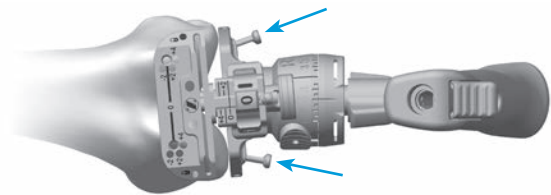

Fig. 9
- For additional fixation, or in lieu of using the lock knob, impact the captured pin on the medial or lateral side of the Adjustable Valgus Guide until the head of the captured pin is flush with the plate (Fig. 9).